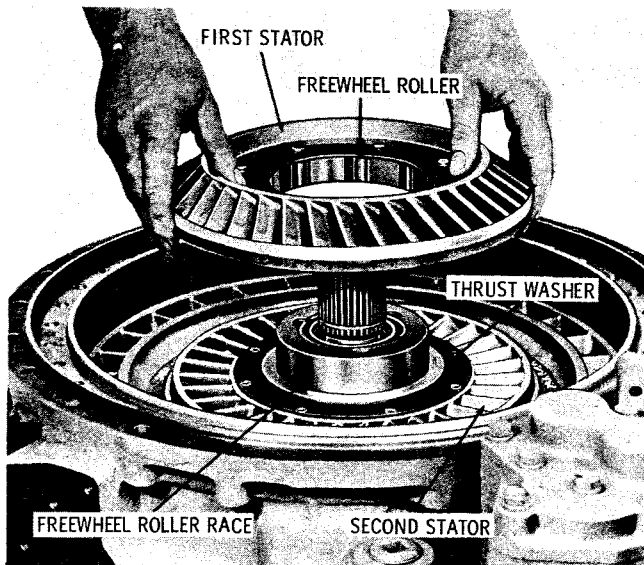

Fig. 5-24. Removing first stator from 4-element converter
(4) On earlier models, the 4-element converter was used. This includes converter pump 34, turbine 6 or 8 and two stators 12 and 17 (A, foldout 6). Remove the first stator from the freewheel roller race (fig. 5-24).